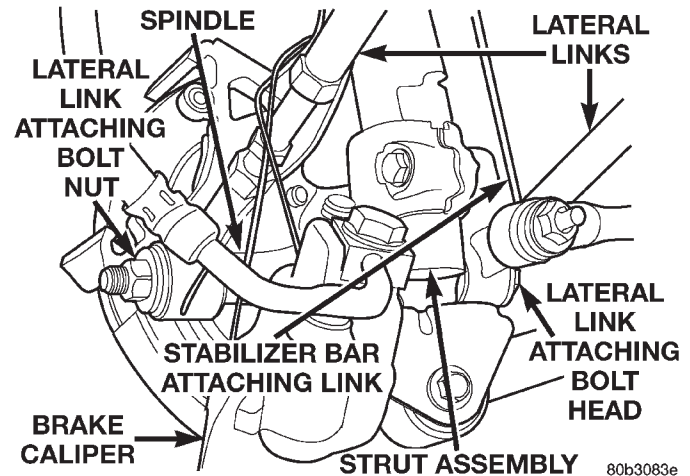
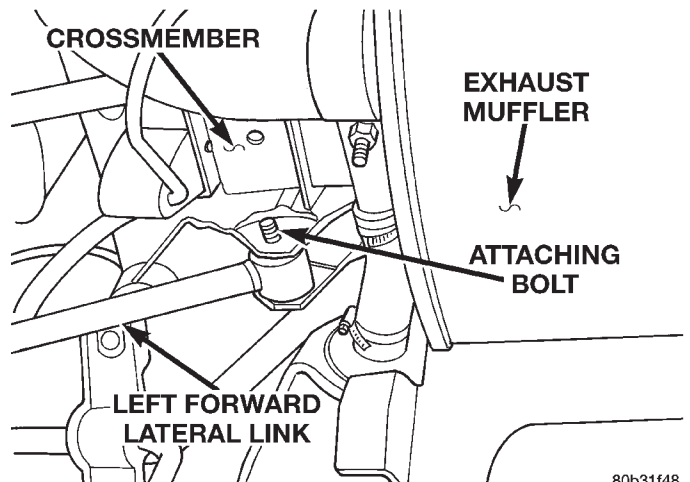

**Fig. 23 Lateral Link Attachment To Spindle**
**Fig. 24 Lateral Link Attachment To Crossmember**
(2) Remove left rear wheel and tire assembly from the vehicle.
(3) Remove the nut and bolt attaching the left lateral links to the spindle (Fig. 23).
(4) Remove the nut attaching the left forward lateral link to the rear suspension crossmember. **The bolt for the left front lateral link may not be removed at this time. Remove the nut only. Once the crossmember is lowered, the bolt can be easily removed.** Notice the forward link attaching bolt faces rearward.
**CAUTION:** The bolts attaching the forward lateral links to the crossmember must be installed with the bolts pointing rearward (Fig. 24) to prevent damage to the fuel tank and or fuel tubes. Also, the left rear lateral arm attaching bolt to the crossmember is to be installed pointing forward to prevent possible damage to the fuel filler tube.
(1) Attach the left forward lateral link to crossmember. Install mounting bolt through the front of the crossmember mount towards the rear. Install the lateral link attaching nut, but DO NOT fully tighten at this time.
(2) Raise the fuel tank up into mounting position.
(3) Reattach the fuel tank straps, securing the fuel tank in place.
(4) Remove transmission jack supporting the fuel tank.
(5) Reinstall the fuel filler neck attaching screw and secure the fuel filler neck to the left frame rail.
(6) Install the 4 bolts attaching both stabilizer bar isolator bushing retainers to the frame rails (the 2 rearward attaching bolts attach the front corners of the rear suspension crossmember in place). Tighten the forward stabilizer bar isolator bushing retainer attaching bolts to 40 N·m (30 ft. lbs.). Tighten the 2 rearward stabilizer bar isolator bushing retainer attaching bolts (which also serve as the front crossmember attaching bolts) to 100 N·m (75 ft. lbs.).
(7) Install the screw securing the brake tubes to the left stabilizer bar isolator bushing retainer.
(8) Install the lateral links on the spindle. Install, but DO NOT fully tighten the attaching bolt and nut at this time (Fig. 23).
(9) Install rear wheel and tire assembly on vehicle.
(10) Tighten the wheel mounting stud nuts in proper sequence until all nuts are torqued to half specification. Then repeat the tightening sequence to the full specified torque of 129 N·m (95 ft. lbs.).
(11) Lower vehicle to the ground.
(12) Tighten lateral arm to crossmember attaching bolt 95 N·m (70 ft. lbs.).
(13) Tighten lateral arm to spindle attaching bolt 135 N·m (100 ft. lbs.).
(14) Check and reset rear wheel TOE to specifications if required.